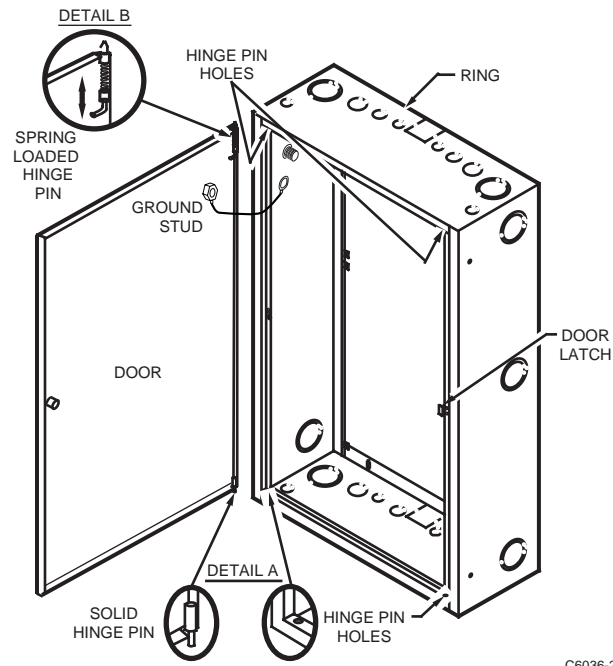

Fig. 9. Door installation (half-size Ring shown).
1. Insert a solid hinge pin on the lower Door into the hinge pin hole on the appropriate side of the lower Ring (see Fig. 9).